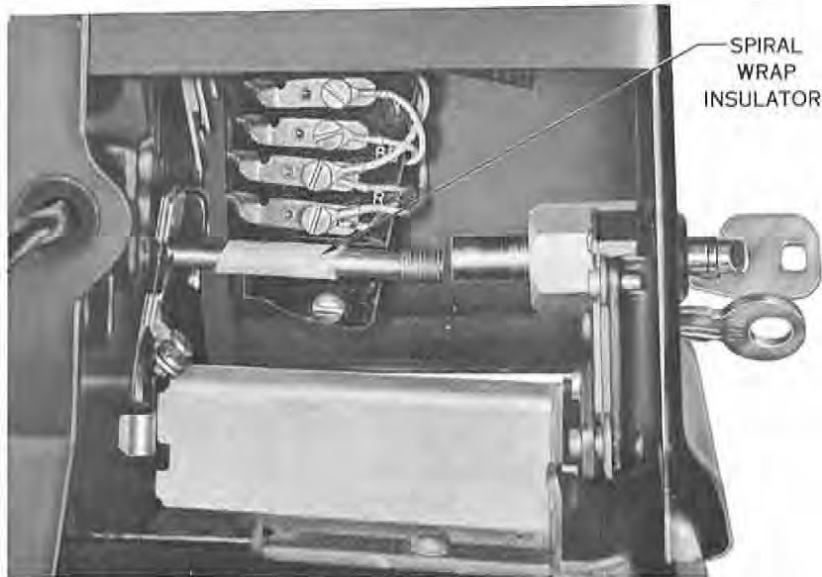

Fig. 4—Cutaway Section, Mating of Bolt Fastener and KS-19277 Lock
- (1) Determine type coin collector to be modified and if the mounting surface will accept the bolt fastener. Refer to section covering identification and assembly of parts for type of coin collector.
- (2) Use an upper housing equipped with KS-19277 lock assembly.
- (3) Replace the P-13A091 BKX terminal assembly with the P-25E300 assembly.
- (4) Disconnect wiring to coin collector.
- (5) Remove coin collector temporarily from its mounting surface.
- (6) Remove lower right security stud, if present. Screw the proper bolt fastener, P-25E301 or P-25E302, in backplate. Be sure it is screwed down tightly.
- (7) Place P-25E351 spiral wrap insulator (Fig. 4) centrally on bolt fastener shaft. This eliminates the possibility of the bolt fastener grounding the lowest lug of the upper housing contacts.
- (8) Redress wiring on the bottom lug of upper housing contacts.
- (9) Install security studs in the three remaining security stud holes.
- (10) Place coin collector on mounting surface. Insert the shoulders of the security studs and bolt fasteners in corresponding keyhole slots in mounting surface.
- (11) Reconnect coin collector wiring.
- (12) Place upper housing on coin collector. Apply pressure to upper housing until KS-19277 lock mates with bolt fastener. (See Fig. 4.) Screw the KS-19277 lock clockwise with the tubular key, until upper housing is drawn tightly against backplate.
- (13) Lock 10-type lock with the 10-type key.
- (1) Determine type coin collector to be modified as covered in section on identification and assembly of parts of coin collectors.
- (2) Use upper housing equipped with a KS-19277 lock assembly.
- (3) Replace P-13A091 BKK terminal assembly with the P-25E300 assembly.
- (4) Screw P-25E303 stud fastener from front of backplate into lower right security hole, if vacant. If there is a security stud in this hole, remove the coin collector from its mounting surface and then remove the security stud. In all cases where the coin collector must be removed from its mounting surface, it is recommended that the bolt fastener be used instead of the stud fastener. In the latter case proceed as in 6.01.
- (5) Place P-25E351 spiral wrap insulator (Fig. 4) centrally on stud fastener shaft. This eliminates the possibility of the stud fastener grounding the lowest lug of the upper housing contacts.
- (6) Redress wiring on bottom lug of upper housing contacts.
- (7) Place upper housing on coin collector. Apply pressure to upper housing until KS-19277 lock mates with bolt fastener. (See Fig. 4.) Screw the KS-19277 lock clockwise, with the tubular key, until upper housing is drawn tightly against backplate.
- (8) Lock 10-type lock with the 10-type key.